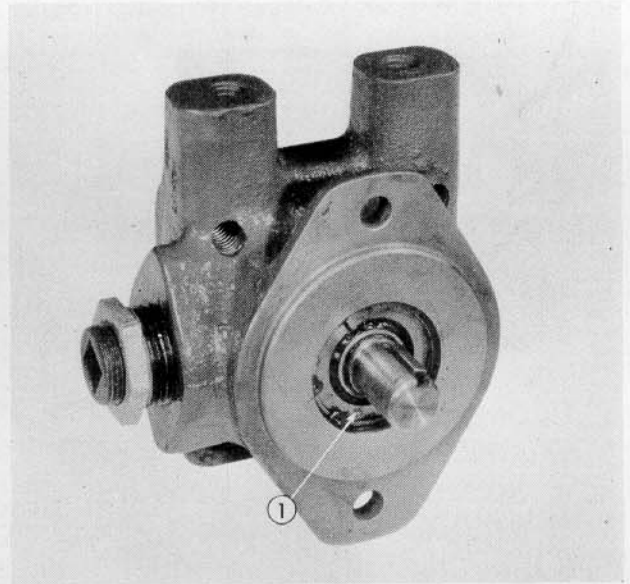

Fig. 32
Step 9—Remove the snap ring (1—Fig. 32).
- Press bearing (10), into pump body (9).
- Install spacer (11), in pump body.
- Press oil seal (12), into pump body. Be sure sealing lip faces out.
- Using an arbor press, install bearing (14), on splined shaft (13).
- Install snap ring (15), in place. See Step 9, Fig. 32.
- Install "O" Ring seal (7), in pump body.
b. Install pins (8), in pump body.
c. Install rotor assembly (6), on splined end of shaft.
d. Install ring (5), in place on locating pins.